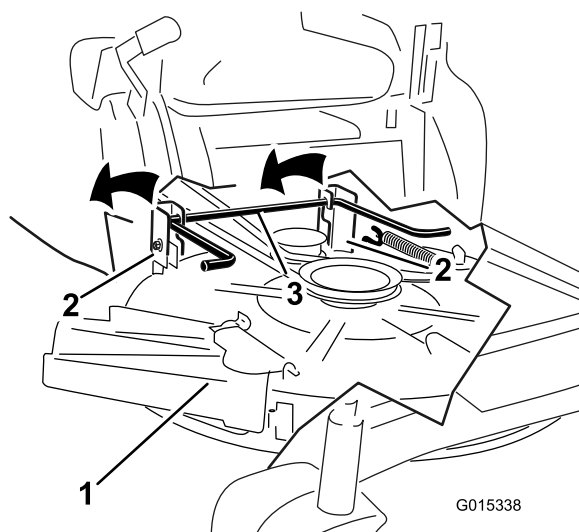

Figure 56
5. Lift the mower deck and hanger brackets clear of the rear lift rod, and lower the mower carefully to the ground (Figure 56).
5. Lift the rear of the mower deck and guide the hanger brackets over the rear lift rod (Figure 56).